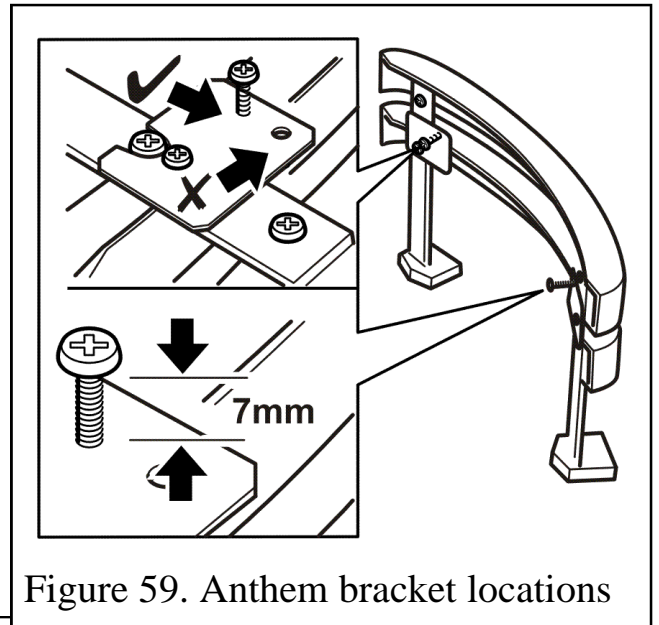

Figure 59. Anthem bracket locations
2. The screw should be set at a distance of 7mm (Measured from the surface of the bracket to the underside of the screw head). Adjust the screw to this distance (See figure 59).